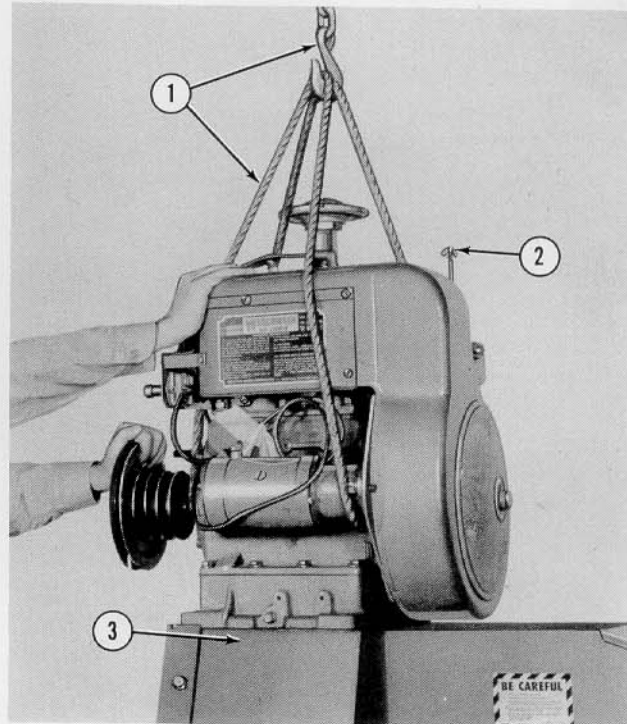
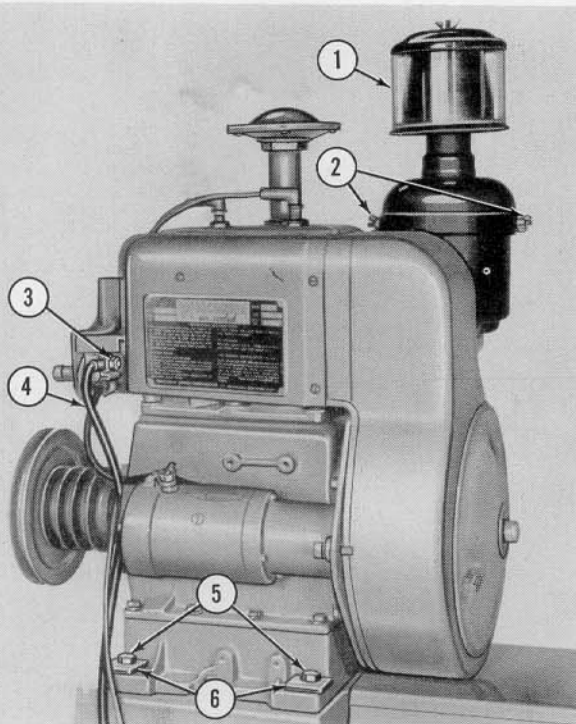
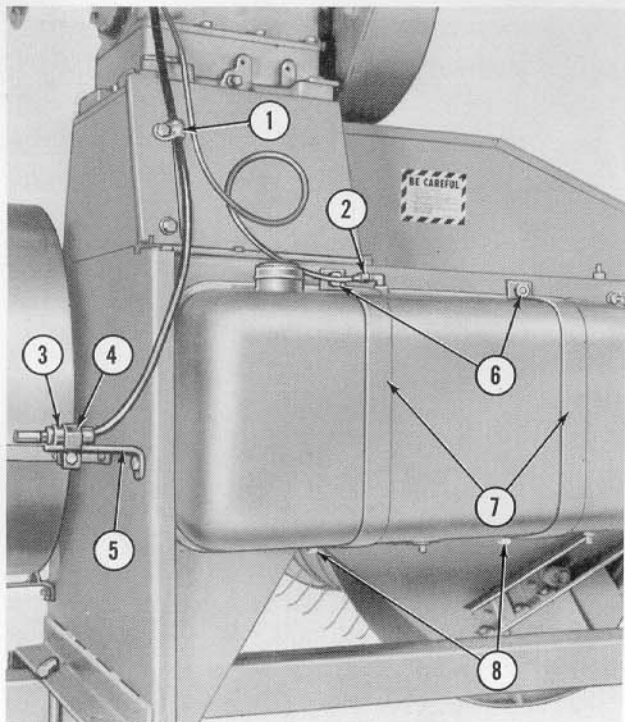

Figure 42
Figure 43
Figure 44
1. Using a suitable hoist and sling as shown at (1), Figure 42, raise the baler engine and position it on the baler engine mount (3). Secure the engine to the mount with the four $\frac{1}{2}$ " x 2" hex head bolts (5), Figure 43, lockwashers and nuts and with the belt adjusting spacers (6) stored under the bolts as shown. Tighten the bolts securely.
2. Loosen the wing nuts (2), Figure 43, and remove the pre-cleaner (1) from the air cleaner assembly. Install the lower part of the air cleaner on the engine (with the gasket in place) and secure with the wing nut (2), Figure 42. Reinstall the pre-cleaner and tighten the wing nuts (2), Figure 43, securely.
3. Attach the starter cable (4), Figure 43, to the starter switch as shown at (3), then secure it to the engine mount with the clip (1), Figure 44, and the bolt in the idler lever latch. Attach the cable connector bracket (5), Figure 44, to the baler with a $\frac{3}{8}$ " x 1" hex head bolt, lockwasher and nut. Secure the connector (3) to the bracket (5) with the clamp (4).
4. Attach the gas tank to the side of the baler with the two straps (7), Figure 44, and secure with four lockwashers and hex nuts (6) and (8). Attach the fuel line to the fitting on the top of the tank as shown at (2).